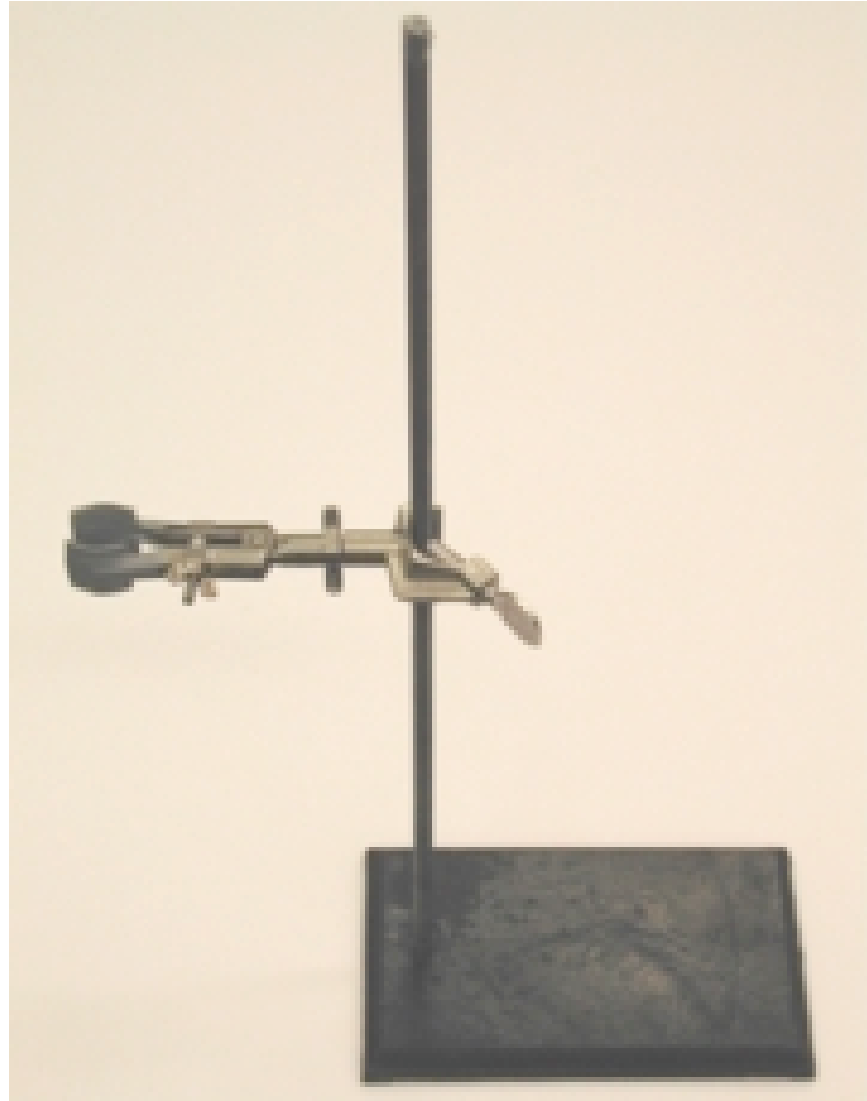

Figure 10: Stand to hold photomultiplier and scintillator.
3. **Meanwhile, place the photomultiplier tube onto the stand such that the glass end is facing up.** If you do not have a stand (as shown in Figure 10), then use some improvised method to hold the photomultiplier with its glass side up (and keep it held for 24-48 hours undisturbed).